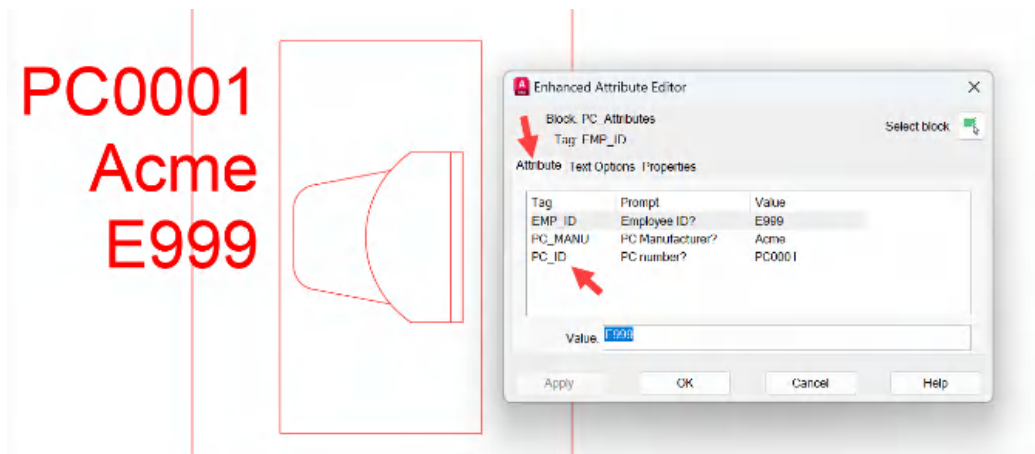

Figure 10.17: Enhanced Attribute Editor with the Attribute tab selected
1. Hover over the `PC_Attributes` block, and then double-click on it. Since it has attributes in the block, **Enhanced Attribute Editor** will appear, as shown in *Figure 10.17*. It defaults to the **Attribute** tab in the editor. You can now edit the attributes in the block without the need to explode the block and rework the attributes.